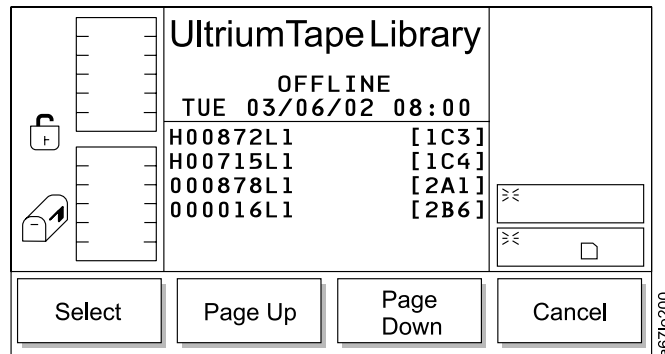

Figure 92. Media Dialog
- If **Media** is selected, the Media Dialog displays (see Figure 92 on page 97).
- If **Cancel** is selected, the Media Dialog displays (see Figure 92).
From the Media Information Dialog, select **OK**. The Media Dialog displays (see Figure 92 on page 97).